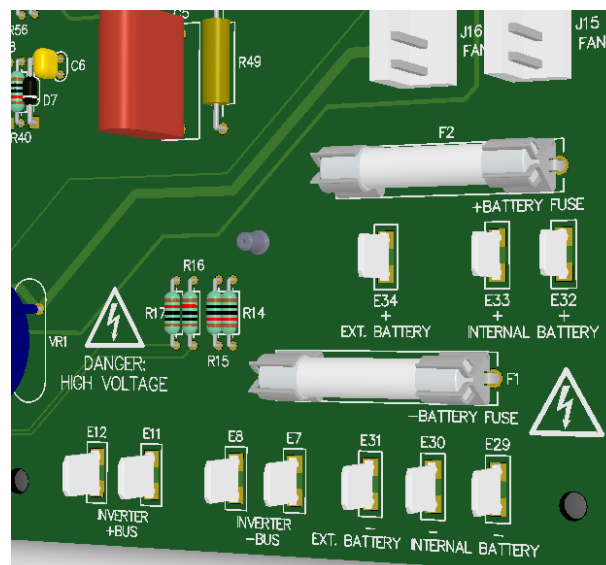

Figure 17 - Battery Fuses
8. The battery fuses are located on the printed circuit board assembly located behind the upper most fan, see figure 17. Pull and replace the fuses labeled – BATTERY FUSE and +BATTERY FUSE. These are 30 AMP, 500 VDC rated fuses and must be replaced with the same rated fuse, Staco Part Number 307-0333-S. If one or both battery fuses are open, check the battery Static Switch for shorts or other damage before replacing the fuses. If damage is present, the Static Switch Board Assembly must be replaced.